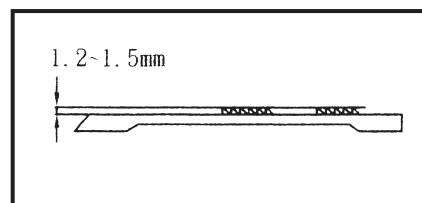

Fig.32
At this time, make differential feed dog (A) and main feed dog (B) to be at the same height and adjust the distance from surface of Stitch Plate to the surface of Feed Dog to be 1.2~1.5mm. (Fig.32)